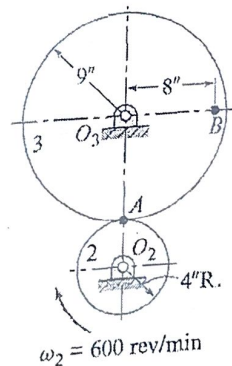

Fig. 1
4. The wheel 2 shown in Fig. 1, rotates at 600 rev/min CW and drives wheel 3 without slipping. Find the velocity difference between points B and A.